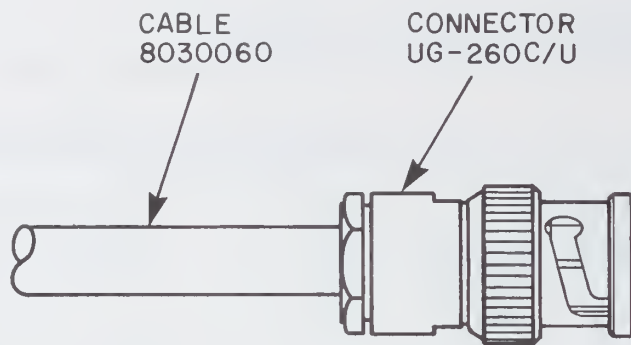

Figure 9-2. Connector Assembly, WSR-74 System Trigger Cable
**9.5.4.1 WSR-74 Installation Wiring.** — Provided in the installation kit are two 50-foot cables with connectors in place at the IDE end. The coaxial cable is for trigger input, and the shielded multi-conductor cable is for data. Connect both cables to the IDE, and route the cables from this point to the bottom rear of the radar console. Leave appropriate slack for connection 1J2 and 1J12. See figures 9-2 and 9-3 for connector assembly and table 9-1 for pinout and color code. After soldering the connectors, disconnect cables at the IDE, and using an ohmmeter, verify correct pinout. Turn radar power off and connect trigger cable to 1J12 and data cable to 1J2. Connect IDE end of the cables and return power to the radar.